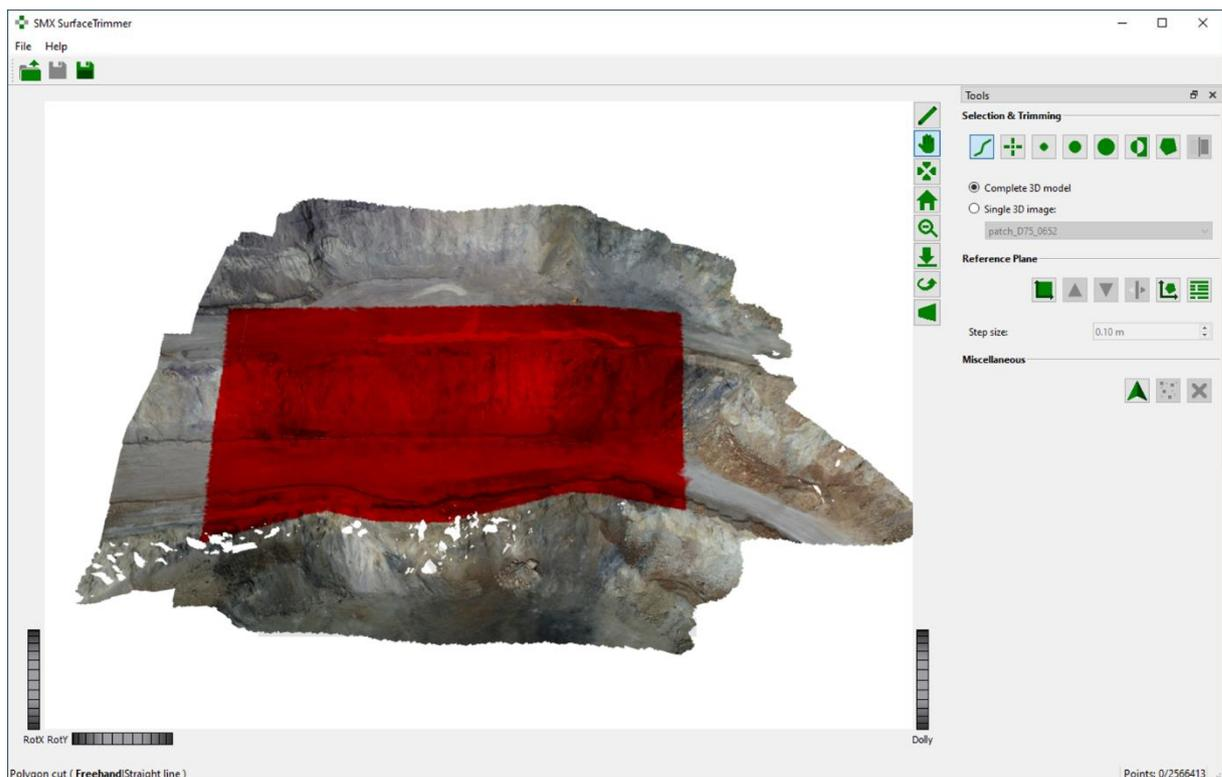

Figure 12: Selection of points
1. Select a region as described in Chapter 4.3. The region to be deleted is highlighted in red (Figure 12)